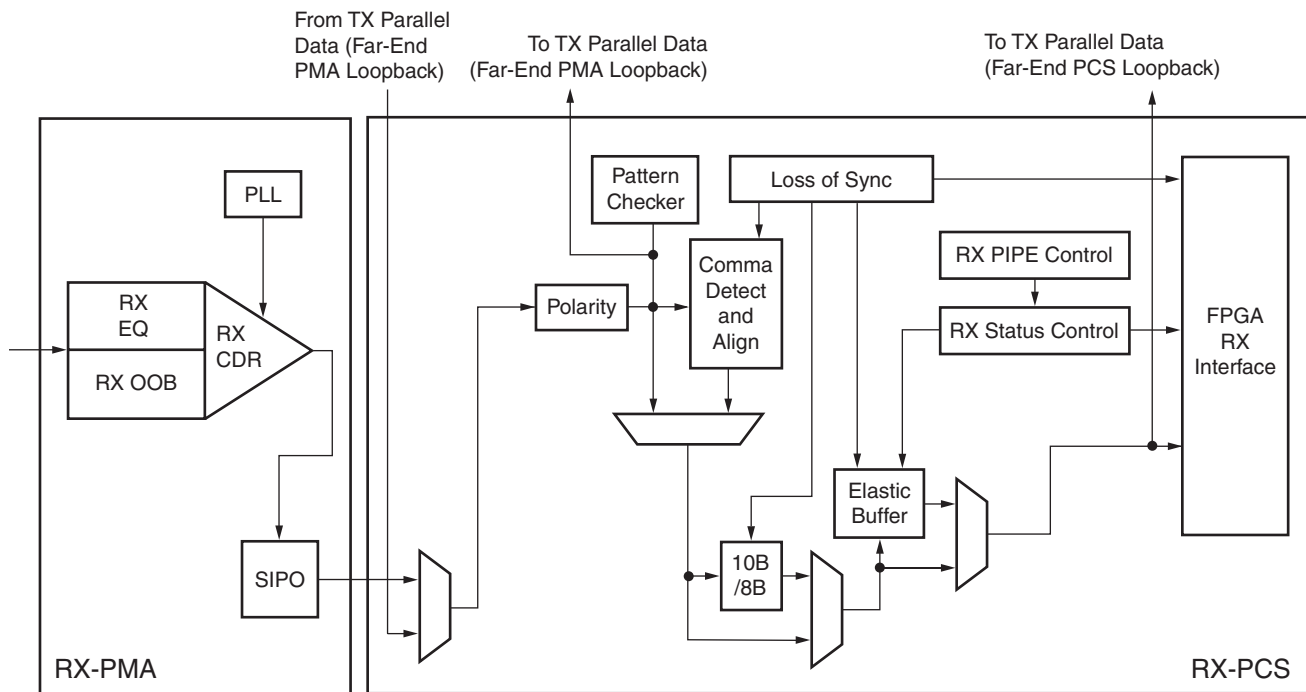

Figure 4-1: GTP Receiver Block Diagram
This chapter shows how to configure and use each of the functional blocks inside the GTP receiver. Each Spartan®-6 FPGA GTP transceiver includes an independent receiver, made up of a PCS and a PMA. Figure 4-1 shows the blocks of the receiver (RX). High-speed serial data flows from traces on the board into the PMA of the RX, into the PCS, and finally into the FPGA logic.